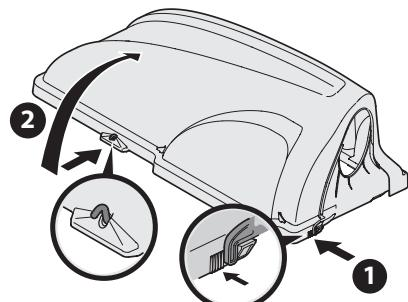

Figure 14
8. Open cover by pushing in on the rear, right-side tab with your right hand (1), as seen in Figure 14, and lifting the cover with your left hand in the center rear of the bagger cover (2).